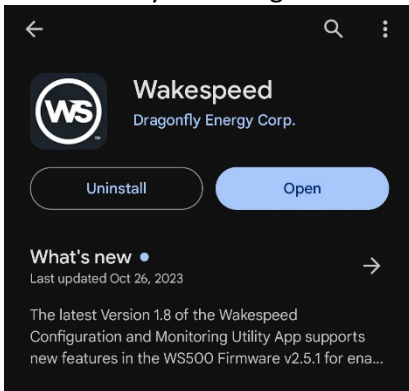

Figure 10
- Open Wakespeed app on the android device. If it's not installed yet, install the Wakespeed app (see Figure 10) on the device by searching for it in the Google Play store and selecting install.